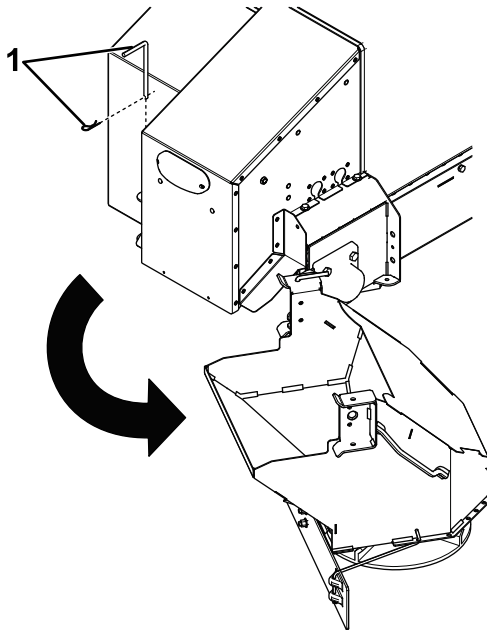

Figure 23
- Remove the left latch and cotter pin from the spinner assembly (Figure 23).
- Swing the spinner assembly free from the hopper opening (Figure 23).